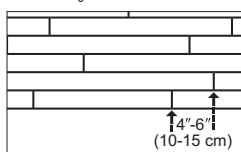

Figure 4
- Be attentive to staggering the ends of the boards at least 4"-6" (10-15 cm), when possible, in adjacent rows (Figure 4). This will help ensure a more favorable overall appearance of the floor.
- End-joints of adjacent rows should be staggered a minimum of 4"-6" (10-15 cm), when possible, to ensure a more favorable overall appearance (Figure 4).
- Check for a tight fit between all edges and ends of each plank. End-joints of adjacent rows should be staggered 4"-6" (10-15 cm), when possible, to ensure a more favorable overall appearance (Figure 4).